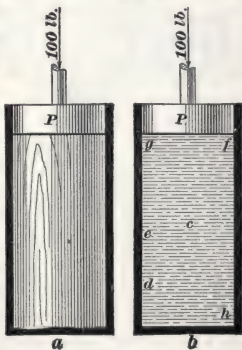
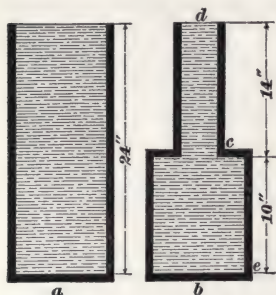

FIG. 1.
FIG. 3.
**3. Hydrostatic Pressure.**—Fig. 1 represents two cylindrical vessels of exactly the same size. The vessel *a* is fitted with a wooden block of the same size as, and free to move in, the cylinder; the vessel *b* is filled with water, whose depth is the same as the length of the wooden block in *a*. Both vessels are fitted with air-tight pistons *P*, each of whose areas are 10 square inches.
**7. Downward Pressure.**—In Fig. 3 the pressure on the bottom of the vessel *a* is, of course, equal to the weight of the water it contains. If the area of the bottom of the vessel *b* and the depth of the liquid contained in it are the same as in the vessel *a*, the pressure on the bottom of *b* will be the same as on the bottom of *a*. Suppose the bottoms of the vessels *a* and *b* are 6 inches square, and that the part *c d* in the vessel *b* is 2 inches square, and that they are filled with water. Then, since 1 cubic foot of water weighs 62.5 pounds, the weight of 1 cubic inch of water is  $\frac{62.5}{1,728}$  pound = .03617 pound. The number of cubic inches
If this pressure were to be obtained by means of a weight placed on each piston (as shown in Fig. 1 at  $a$  and  $b$ ), we would have to put a weight of  $6 \times 6 \times 10 = 360$  pounds on the piston in vessel  $a$ , Fig. 3, and one of  $2 \times 2 \times 10 = 40$  pounds on the piston in vessel  $b$ .
**10.** Suppose that the vessel *b*, in Fig. 3, were inverted, as shown in Fig. 4, the pressure on the bottom would still be .868 pound per square inch, but it would require a weight of 3,490 pounds on a piston at the upper surface to make the pressure on the bottom 391.25 pounds, instead of a weight of 40 pounds, as in the other case.